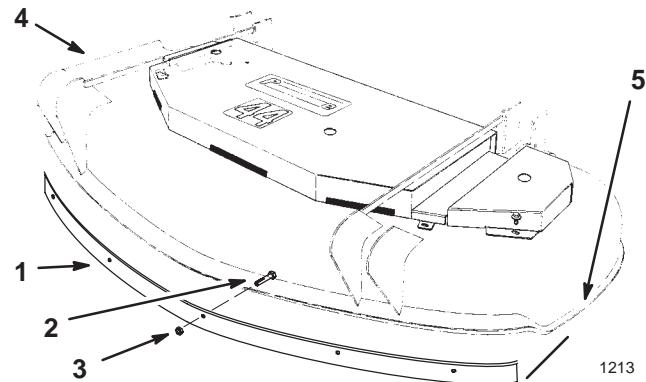

Figure 4
2. Position the left side of the baffle inside the mower and flush with left edge of mower (Fig. 4).
5. Secure the front baffle to the mower with 5 bolts (5/16 x 3/4 in.) and with 5 lock nuts (5/16 in.) (Fig. 4).
Note: Make sure the bolt head is on the inside of the deck. Refer to figure 4.